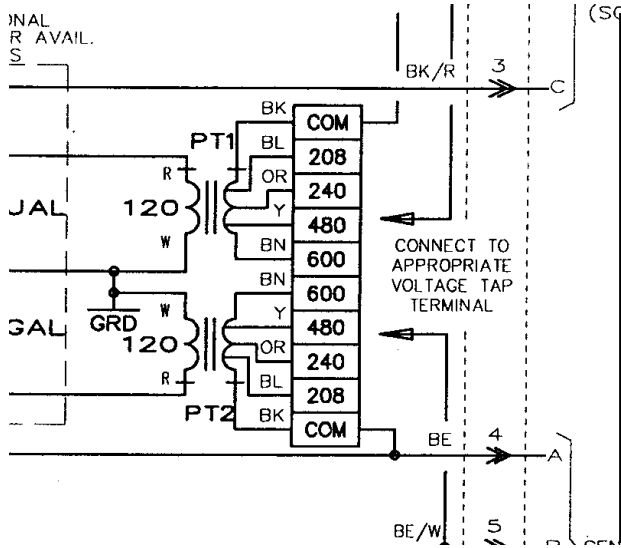

Figure 1
3. Change voltage transformer primary taps settings to match new system voltage on all potential transformers. (Refer to wiring schematic diagram Figure 1). Ensure all electrical connections are tight.